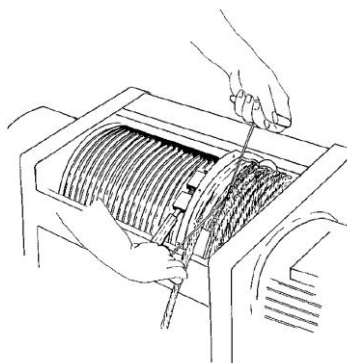
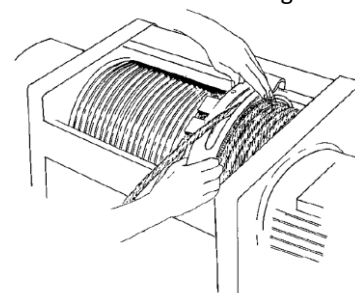

Figure 10
Figure 11
- **Rope guide installation-** Put the rope guide (figure 6) into the drum grooves. With the special pliers, narrow the ring ends using the 2 holes on the ring ends (figure 7). Install the spring in its slot inside the ring (figure 8) and close it hooking it (figure 9). Fit the rope guide shoe (figure 10) and tighten the screws item 1 (figure 11). After the installation of the rope guide, pass the free rope end through the pulley of the Hook block and then fasten it on the wedge socket, as described in the section "Hook block assembly" 3.7. on page 10 of the installation manual.